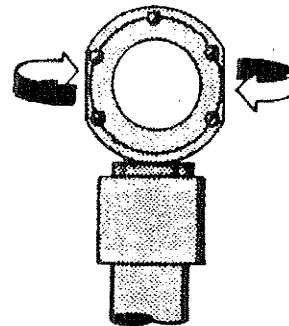

Figure 7 Install Sample
12. Screw the sample holder into the end of the second stage heat station. Tighten it finger tight. See Figure 7.